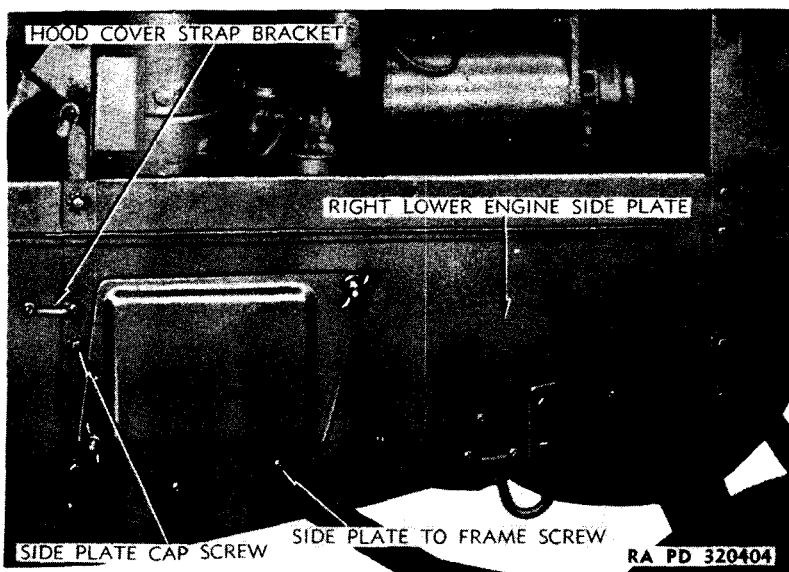

Figure 103—Lower Engine Side Plate
b. **Removal.** Remove ski or wheel from each side of engine hood. Remove engine hood cover (if used). Remove hood side plates by unlatching and lifting off. Disconnect lower end of engine preheater fuel line (fig. 23), and drain fuel from tank. Disconnect upper end of fuel line at tank, and remove fuel line. Remove 14 cap screws from engine hood. Loosen preheater flue clamp screw at bottom of flue. Lift off engine hood. To remove lower engine side plates, remove cap screws holding side plates to tractor frame and body (fig. 103).